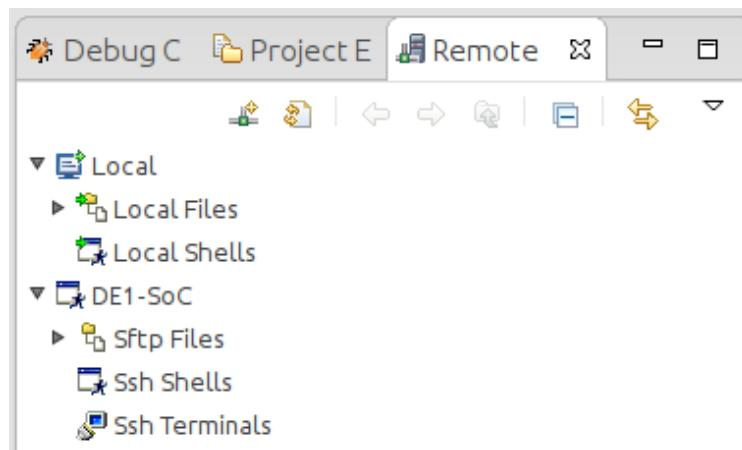

Figure 13-12. New SSH Connection In "Remote Systems" View
68. You should be able to see the remote system in ARM DS-5's "Remote Systems" view, as shown in Figure 13-12.